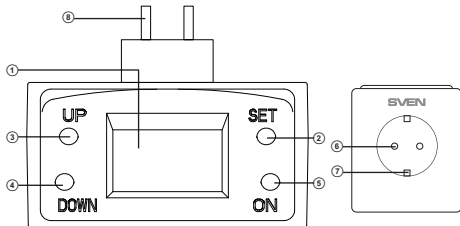

Fig. 1
**Design description** (Fig. 1)
- ① LCD Indicator for displaying the value of the mains voltage, displaying the values of the adjustable parameters and indicating the status of the voltage relay
- ② SET: button to enter the programming mode and select programmable parameters
- ③ UP: button to increase the value of a parameter being set
- ④ DOWN: button to decrease the value of a parameter being set
- ⑤ ON: forced load button, exit button from the parameter setting mode
- ⑥ Protective shutters
- ⑦ Grounding contacts
- ⑧ Wall plug to connect the voltage relay to 230 V / 50 Hz power supply network socket